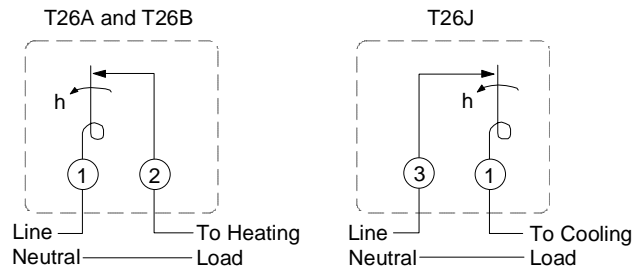

Figure 6: Internal Diagram of T26A, T26B, and T26J
5. Strip the wires and connect to the proper terminals on the back of the thermostat. See Figures 6 through 11.